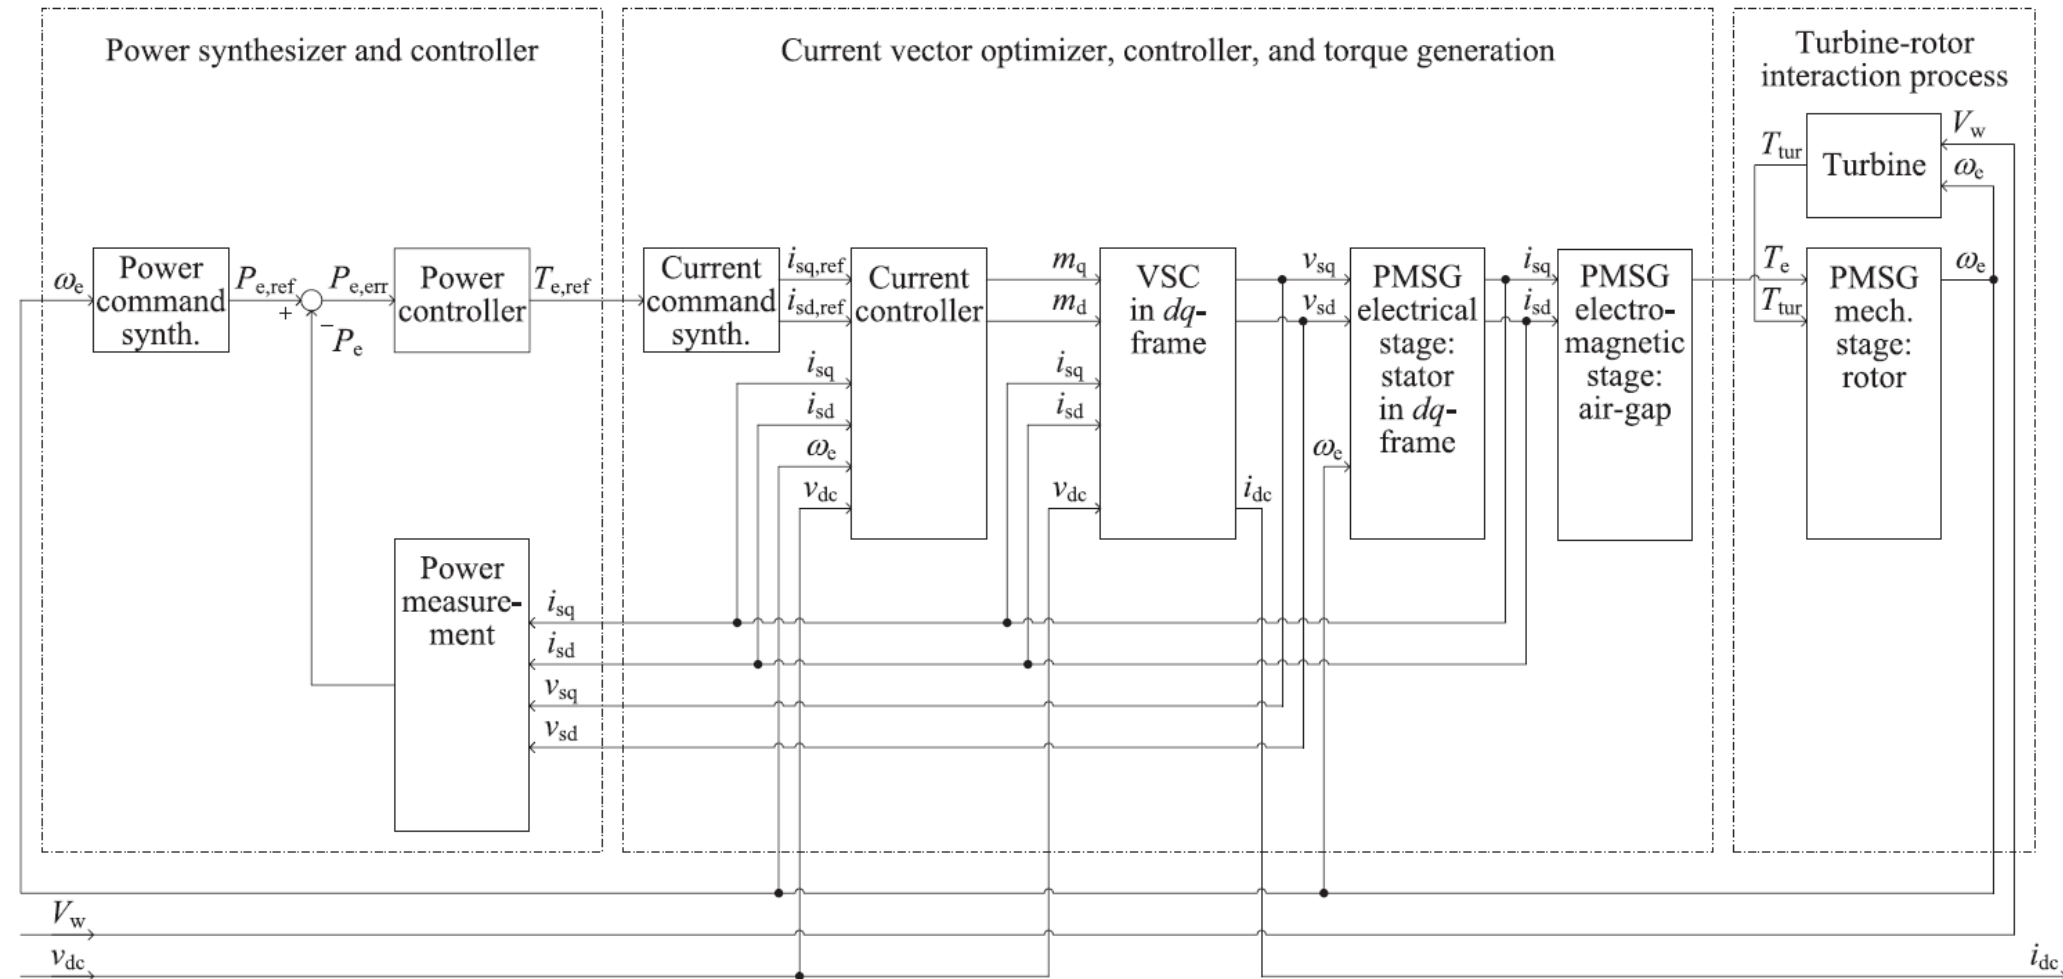

Fig. 1: Block diagram of WECS with functional stages framed by dashed lines.
- Create the **nonlinear model of Fig. 1** in **MATLAB/Simulink** neglecting the damping. As illustrated in this block diagram, divide the system into three subsystems „Power synthesizer and controller“, „Current vector optimizer, controller and torque generation“, „Turbine-rotor interaction process“. Each of the three subsystems contain blocks which are again subsystems.